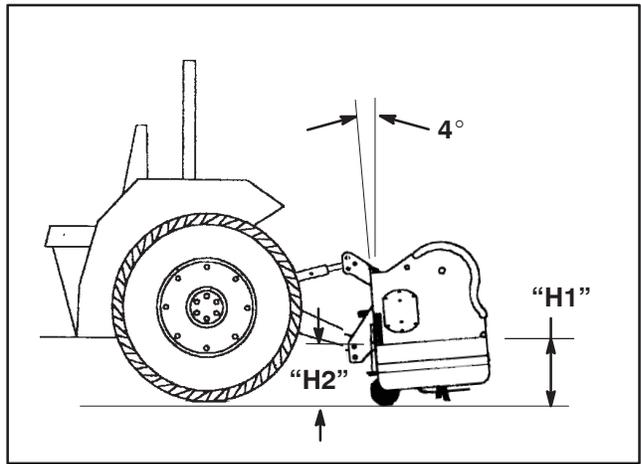

Figure 23
- C. Measure and record the distance from the ground to the lower rear corner of the frame (“H1”) and front corner of the frame (“H2”) (Fig. 23).